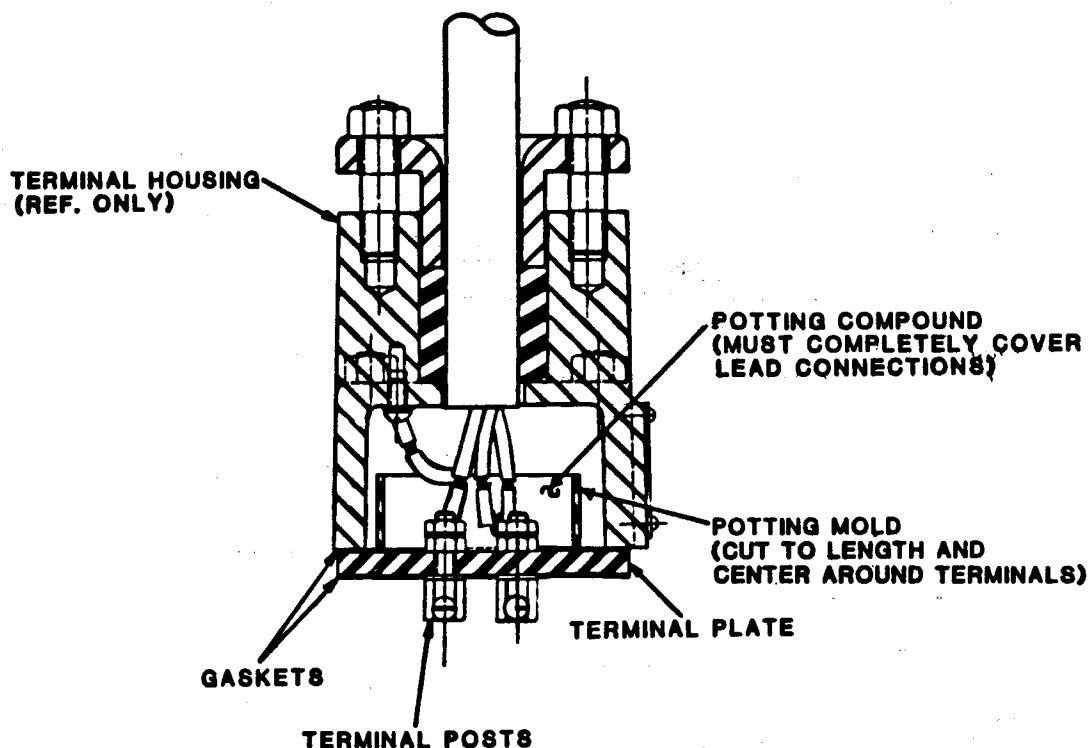

Figure 5. Potting Power Cable Leads In Terminal Housing
When shipped from the factory, the cable leads and terminals were encapsulated in heat-shrink tubing (18) and bonded to the terminal plate (21) with hot-melt adhesive to provide a water-tight seal. These materials are included in an optional repair kit listed in the parts list; however, since a glue gun with the required temperature range is not generally available in the field, it is recommended that a repotting kit available from Gorman-Rupp (see optional equipment in parts list) or a commercially available kit (Products Research Corp., part no. PR-1201-Q Class 1 potting compound, or equivalent) be used to reseat the connections. See Figure 5, and the following instructions.
Trim the potting mold so it is just long enough to cover the terminal post studs (see Figure 5). Slide the potting mold up over the three standard leads of the power cable (6).